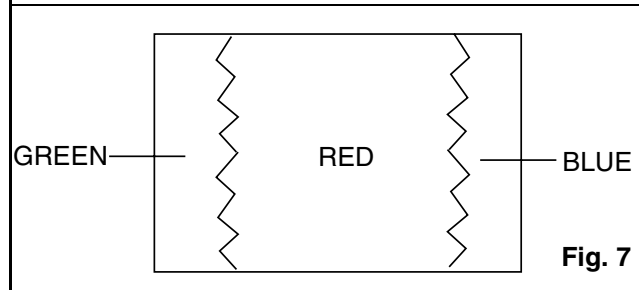

Fig. 7
6. Loosen the Ring Lock and adjust the Purity Magnets so that a red field is obtained at the center of the screen. Tighten Ring Lock. (See Fig. 7,8.)